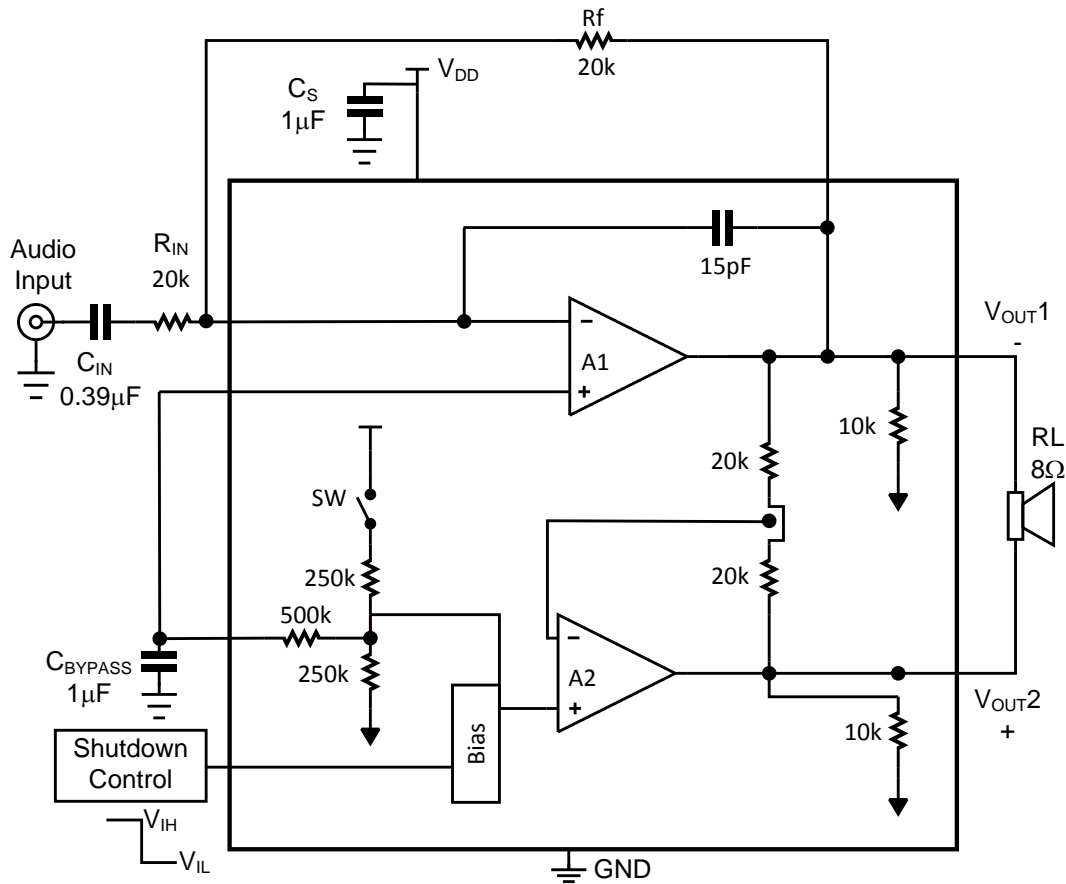

Figure 7. Typical Audio Amplifier Application Circuit
The following specifications apply for the circuit shown in Figure 7 unless otherwise specified. Limits apply for  $T_A = 25^\circ C$ .
- (1) All voltages are measured with respect to the ground pin, unless otherwise specified.
- (2) *Absolute Maximum Ratings* indicate limits beyond which damage to the device may occur. *Operating Ratings* indicate conditions for which the device is functional, but do not ensure specific performance limits. *Electrical Characteristics* state DC and AC electrical specifications under particular test conditions which ensure specific performance limits. This assumes that the device is within the Operating Ratings. Specifications are not ensured for parameters where no limit is given, however, the typical value is a good indication of device performance.
- (3) For DSBGA only, shutdown current is measured in a Normal Room Environment. Exposure to direct sunlight will increase  $I_{SD}$  by a maximum of 2μA.
- (4) Typicals are measured at 25°C and represent the parametric norm.
- (5) Limits are specified to TI's AOQL (Average Outgoing Quality Level).
- (6) Datasheet min/max specification limits are specified by design, test, or statistical analysis.
- (7) ROUT is measured from each of the output pins to ground. This value represents the parallel combination of the 10k ohm output resistors and the two 20k ohm resistors.
- (8) PSRR is a function of system gain. Specifications apply to the circuit in Figure 7 where  $A_V = 2$ . Higher system gains will reduce PSRR value by the amount of gain increase. A system gain of 10 represents a gain increase of 14dB. PSRR will be reduced by 14dB and applies to all operating voltages.
The following specifications apply for the circuit shown in Figure 7 unless otherwise specified. Limits apply for  $T_A = 25^\circ\text{C}$ .
(8) PSRR is a function of system gain. Specifications apply to the circuit in Figure 7 where  $A_V = 2$ . Higher system gains will reduce PSRR value by the amount of gain increase. A system gain of 10 represents a gain increase of 14dB. PSRR will be reduced by 14dB and applies to all operating voltages.